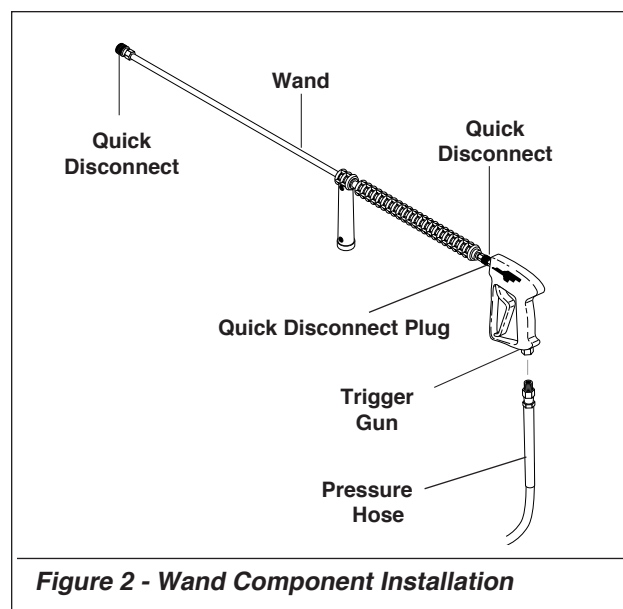

Figure 2 - Wand Component Installation
3. Assemble wand components as shown in **Figure 2**.